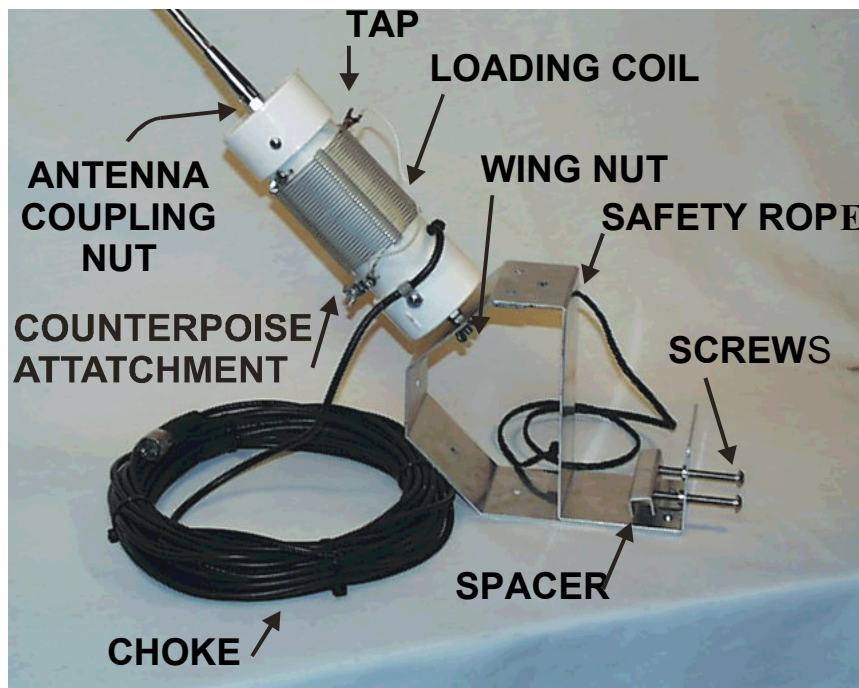

Figure 1
- [ ] 3. Screw the antenna into the coupling nut (shown in Figure 1) located on top of the coil assembly.
- [ ] 8. Use the three black wire ties supplied to tie the choke coils together. Space the ties out evenly around the circle. Figure 1 shows a picture of the finished choke.
- [ ] 9. Insert the 1/2" x 3/8" bolts into the threaded holes on the base plate approximately one inch as shown in Figure 1.
- [ ] 10. Place the spacer plate onto the bolts as indicated in Figure 1.
- [ ] 11. Push one end of the safety rope through the rope hole as indicated in Figure 1. Tie a knot on both ends of the rope to secure it.
- [ ] 5. Decide which mount hole will be used on the mounting bracket according to your situation. There are five holes available. Figure 1 indicates the possible hole positions.